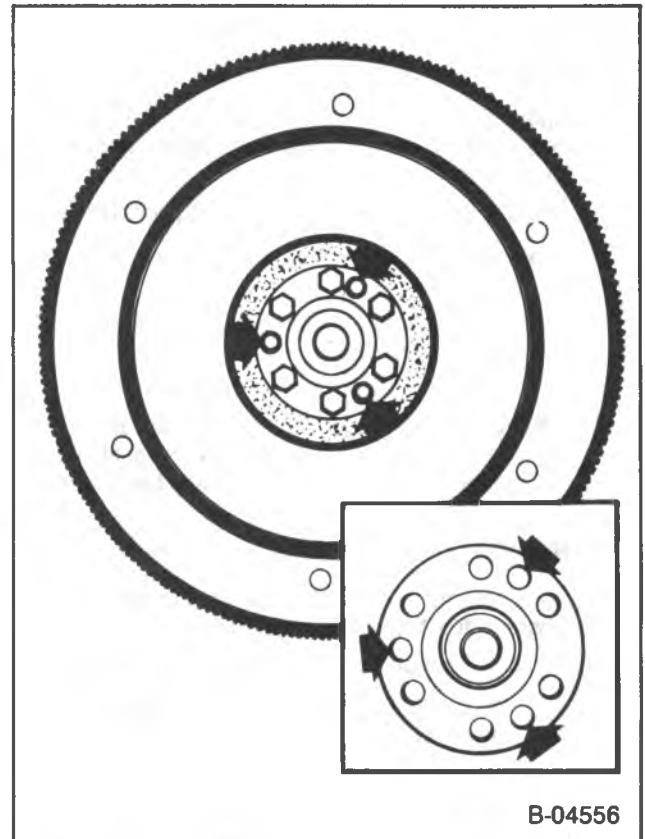

Figure 40 — Flywheel Dowel Pin Hole Locations
Remove or Disconnect (Figure 40)
- Mark the flywheel and crankshaft so the dowel pin holes can be aligned in their original positions at assembly (figure 40).
Install or Connect (Figure 40)